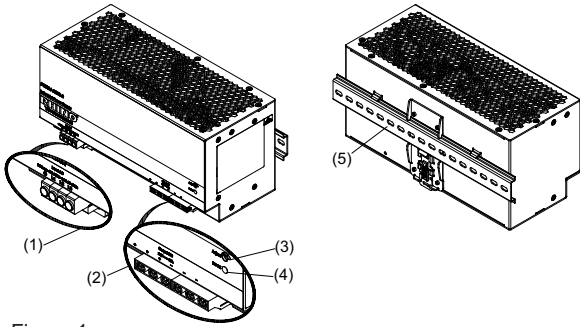
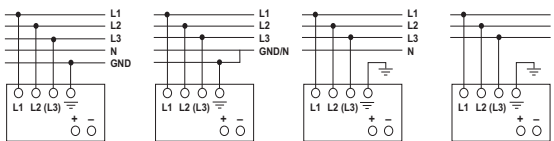

Figure 1
Figure 5
2. Device description (Fig. 1)
5.1. Input connection (Fig. 1, Fig. 5)
Use L1, L2, L3 with GND connections of input terminal connector (See Fig. 5) to establish the 3 x 400-500VAC connection. Fig. 5 shows the connection to the various network types (Recommend to use 4-core input cable for better EMI performance).
5.2. Output Connection (Fig. 1 (2))
Use the "+" and "-" screw connections to establish the 24 VDC connection. The output provides 24 VDC. The output voltage can be adjusted from 24 to 28 VDC on the potentiometer. The green LED DC OK displays correct function of the output (Fig. 1 (4)). The device has a short circuit and overload protection and an overvoltage protection limited to 35 VDC.